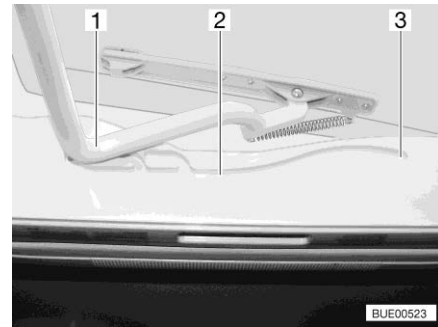

Fig. 109 Guide (Heki skylight)
- Pull the bar (Fig. 109,1) in the guides (Fig. 109,2) to the rearmost position (Fig. 109,3).
- Use both hands to push the bar (Fig. 109,1) slightly upwards.
- Pull the bar in the guides (Fig. 109,2) to the desired position.